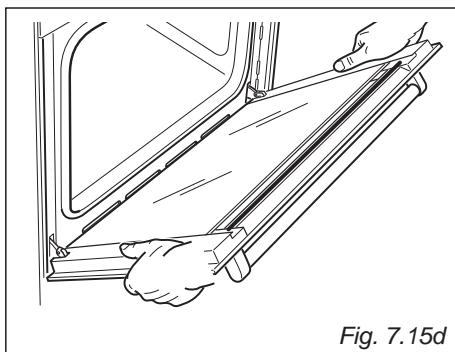

Fig. 7.15d
- Hold the door as shown in fig. 7.15d.